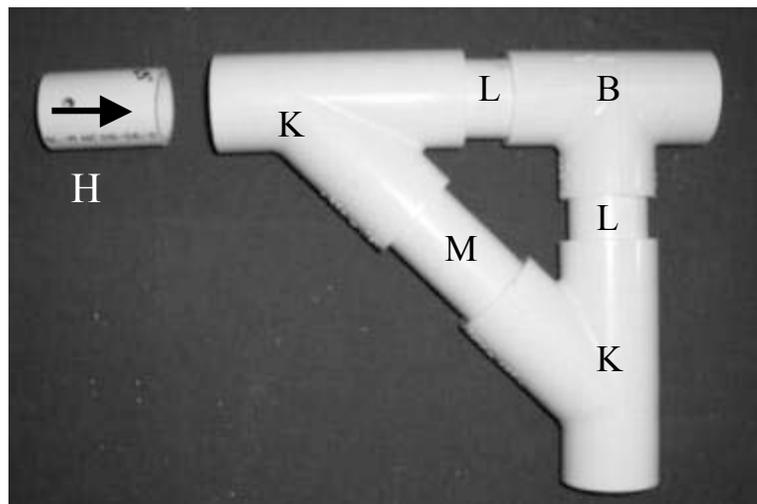

FIGURE 10 – Step 6 – Wheelchair Side Frame.
**Step 6.** Coat the inner surface of the remaining opening on the horizontally oriented Part K with PVC glue and insert Part H (end without drilled hole) into the opening, making sure to align the holes horizontally at the midpoint as shown in Figure 10. Use the mallet to properly seat the connection.